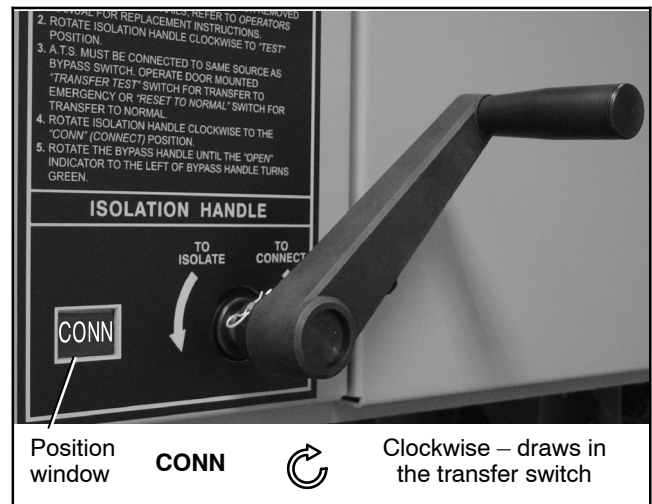

Figure 7-31 Isolation Handle in CONN Position
- The Isolation Handle must be in the CONN (connected) position. Check the position window indicator. See Figure 7-31.